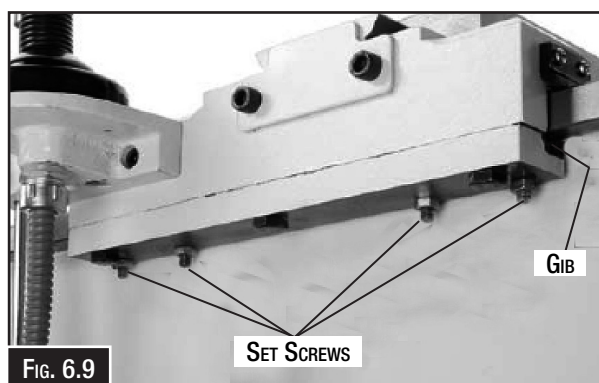

Fig. 6.9
1. Loosen the jam nuts on the four set screws Fig. 6.9), and adjust the set screws.